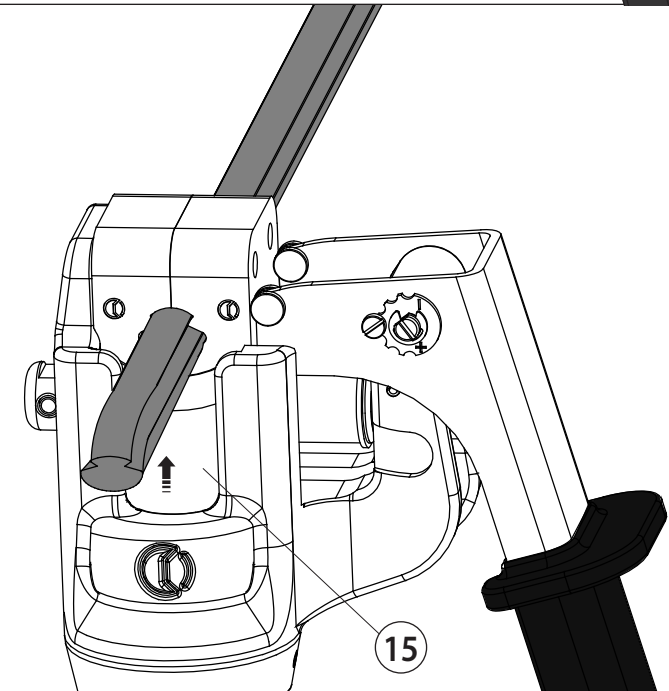

FIG. 5 CUTTING - COUPE - SCHNEIDEN - CORTE - TAGLIO
- Operate the moveable handle (31) to advance the blade (15) to the conductor (see Fig. 5)
**i** Before proceeding with the cutting operation, ensure that the locking pin (16) is fully inserted in the head and the locking handle (49) is securely locked in position. Check that the cutting edge of the blade coincides with the desired cutting point; if not open the dies, by releasing the locking Handle (49) and repositioning the wire/conductor.
### 2.3) Cutting (Ref. to Fig. 5)